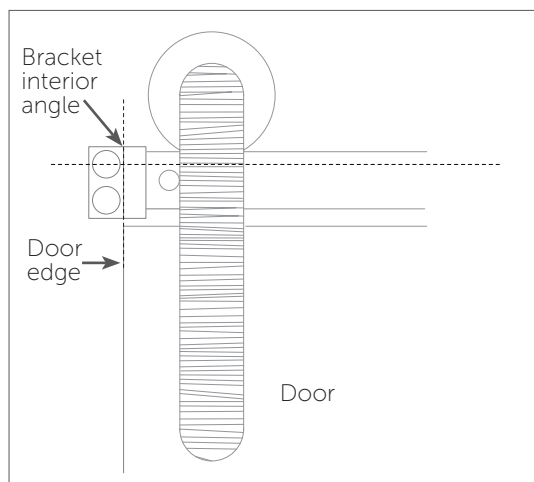

Figure 2
3. The interior angle of the bracket should be in line with the edge of the door. This is individual preference and will depend on how far beyond the doorway the door will overlap. Draw a vertical line where the door will hang in the closed position. (Figure 2).
4. Position an end bracket so the interior angle of the bracket is in line with the vertical line and the line above the door is centered in the top hole of the bracket. (Figure 2). Using a pencil, mark the position of both top and bottom holes.